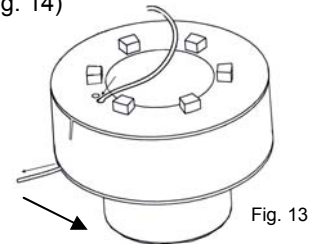
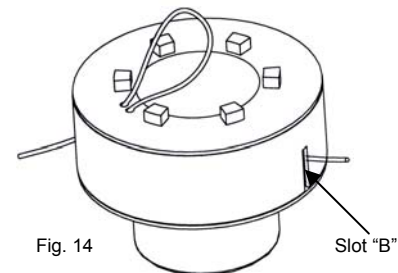

Fig. 13
Fig. 14
4. Feed one end of the cutting line into the hole on the right side first. (Fig. 13) Take out about 4-inches and pull it until it comes out of Slot "B". (Fig. 14)